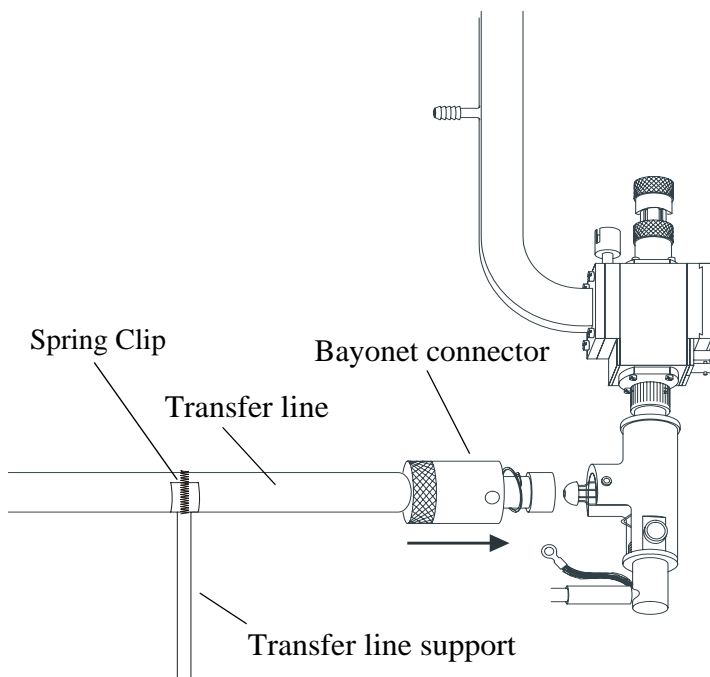

Figure 2-6 Attaching the transfer line to the cavity.
4. **Connect the transfer line.** Put a small amount of the vacuum grease (**part U**) on both ground glass joints of the transfer line (**part I**). Match the recessed joint from the straight end of the transfer line onto the ball joint of the cryostat. Push the bayonet connector toward the cryostat. You will feel the springs of the connector compress. Then turn the connector about 1/4 turn clockwise and release. You will feel the connector click into place. Gently pull outward on the transfer line to ensure the connection was made. Next, pull the spring clip over the transfer line and attach it to the opposite side of the U-shaped bracket. (See Figure 2-6.)